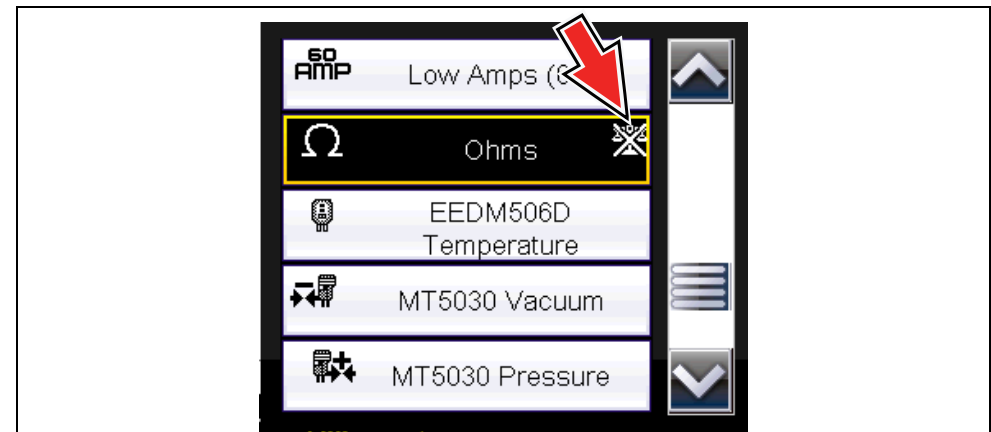

Figure 10-12 Probe menu - Ohms with “not calibrated” indicator displayed
*During an ohms test or a pressure test, a manual probe recalibration can be initiated by selecting the probe icon from the Control Panel to open the probe menu. Then select either the **Ohms** or **Pressure (100, 500, 5000)** items from the probe menu. The menu selections will display a graphic of a balance scale with an “X” through it (on right side) to indicate that probe is not calibrated (Figure 10-12).*